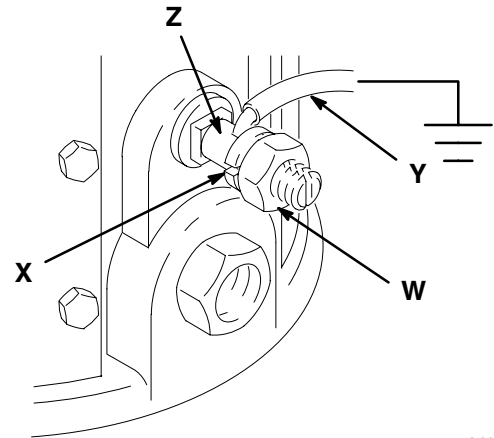

Fig. 1
- *Pump:* Use a ground wire and clamp as shown in Fig. 1.